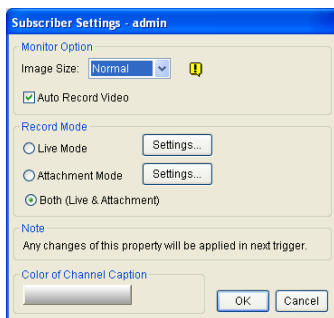

Figure 1-4
In the Subscriber Settings dialog box (see Figure 1-4), select **Attachment Mode**, and click the **Settings...** button beside. This dialog box appears.
1. On Center V2 window, click the **Accounts** button (No.12, Figure 1-1), highlight a subscriber, and click the **Subscriber Setting** button on the toolbar. The Subscriber Settings dialog box (see Figure 1-4) appears.